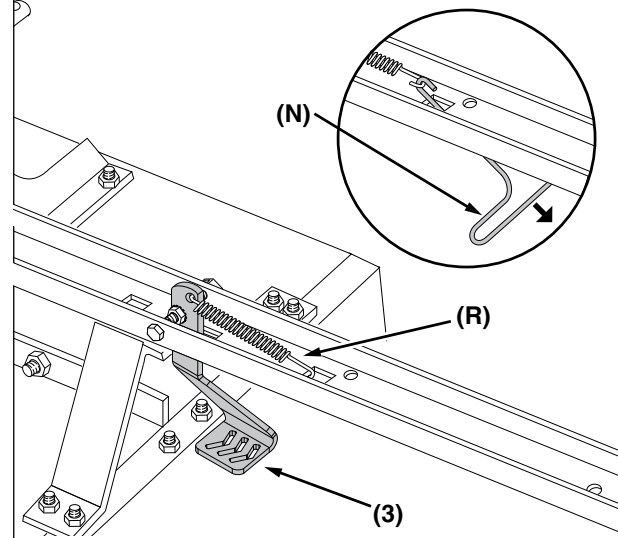

Figure 14
STEP 14 (SEE FIGURE 14): Install the extension spring (J) by attaching one end to the hole in the foot pedal (3). Use the spring puller tool (N) to attach the other side of the spring to the tongue as shown below.